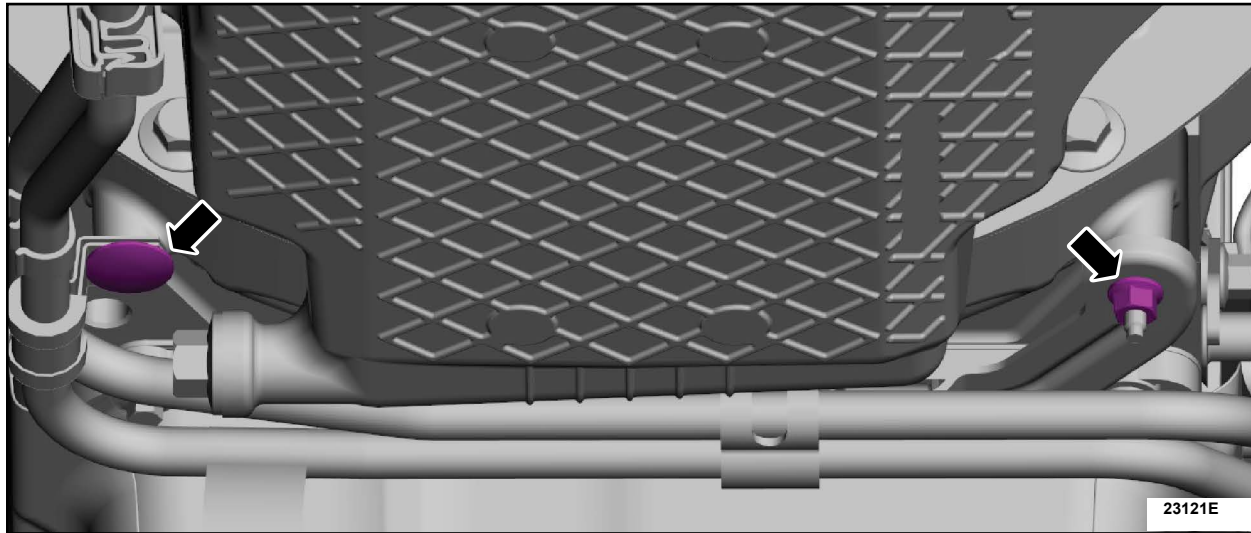

FIGURE 3
16. Remove the transmission cooler tube bracket retainer and nut. See Figure 3.